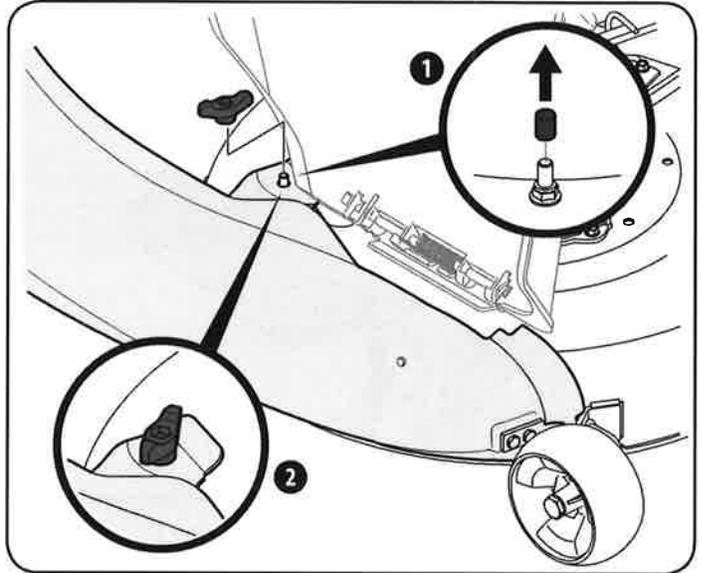

Figure 19
**Note:** Determine if your deck is a newer model, or an older model. Refer to the upper inset of Figure 19. If your deck has a mounting stud present, then you have a newer deck model and you would follow the instructions below. If no stud is present, refer to the instructions titled **On Tractors With Older Deck Configurations** later in this section.
2. Secure the chute elbow to the deck using the wing knob 720-04122 from hardware pack 689-00318A. See Figure 19.
**Note:** If present, remove the protective cap off of the mounting stud on the mowing deck as seen in the upper inset of Figure 19.